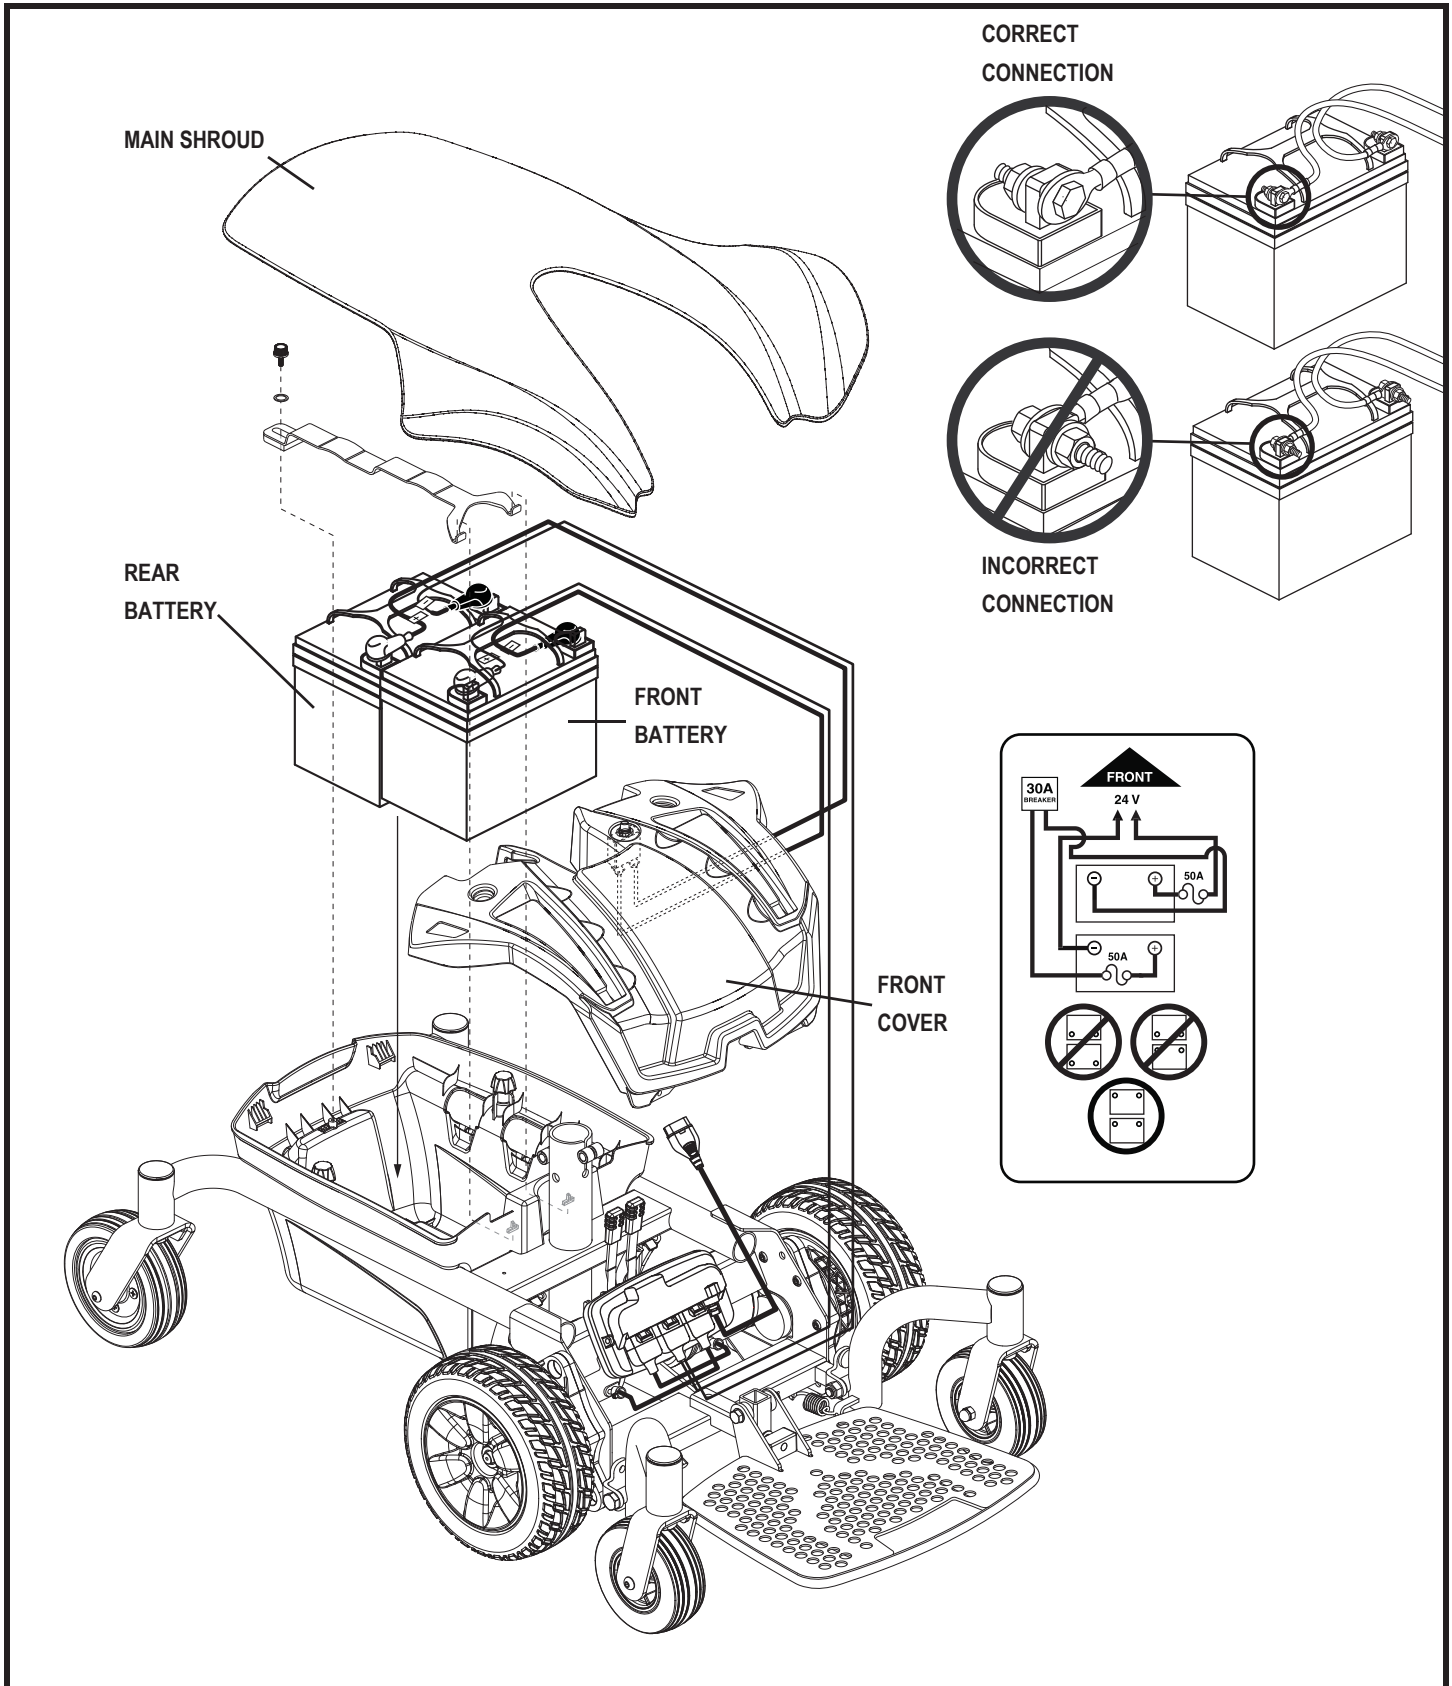

Figure 23. Battery Installation (Seat Removed for Clarity)
4. Remove the main shroud by lifting the rear of the main shroud until it disconnects from the body shroud. Once disconnected from the body shroud, slide the main shroud forward until the tabs are free from the body shroud. Lift the shroud up and over the seat post. **See figure 23.**
5. Unfasten the battery strap. **See figure 23.**
6. Disconnect the battery cables from the battery terminals of each battery. **See figure 23.**
8. Install new batteries into the battery tray. Make sure the terminals of each battery are facing the front of the power chair. **See figure 23.**
9. Connect the front battery cable to the front battery terminals according to the battery wiring diagram. Make sure that the positive (+) cable is connected to the positive (+) terminal and the negative (-) cable is connected to the negative (-) terminal and that the battery terminal hardware is facing the correct direction. **See figure 23.**
10. Connect the rear battery cable to the rear battery terminals according to the battery wiring diagram. Make sure that the positive (+) cable is connected to the positive (+) terminal and the negative (-) cable is connected to the negative (-) terminal and that the battery terminal hardware is facing the correct direction. **See figure 23.**